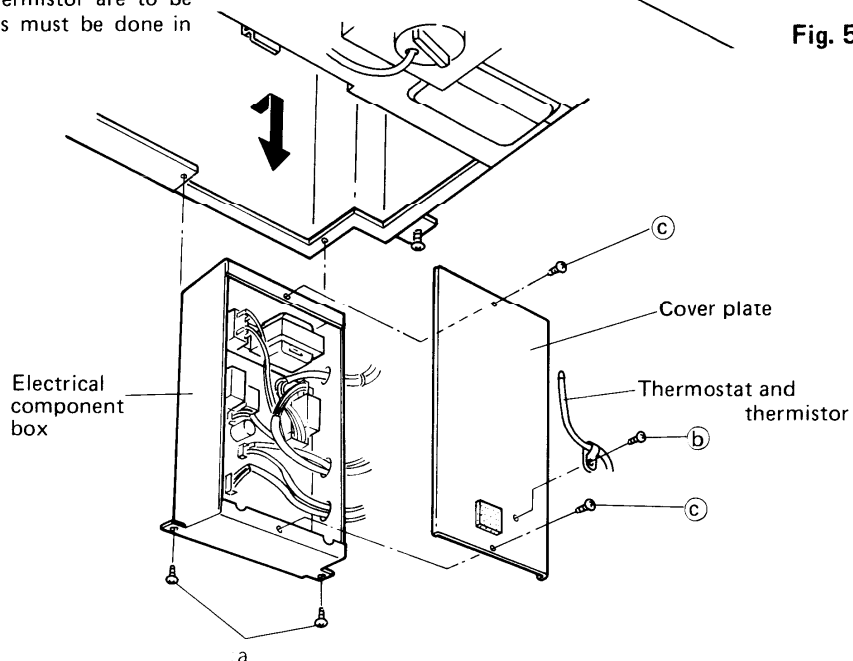

Fig. 6
- (1) Remove the two screws (a) of the electrical component box.
- (2) Remove the clamp (b) on the cover plate.
- (3) Remove the electrical component box by pulling it in arrow direction.
- (4) When the thermostat and the thermistor are to be removed from the clamp (b), this must be done in installed condition. Fig. 6
- 6) When the two screws ③ of the electrical component box are removed, the inside can be checked. Fig. 6, 7